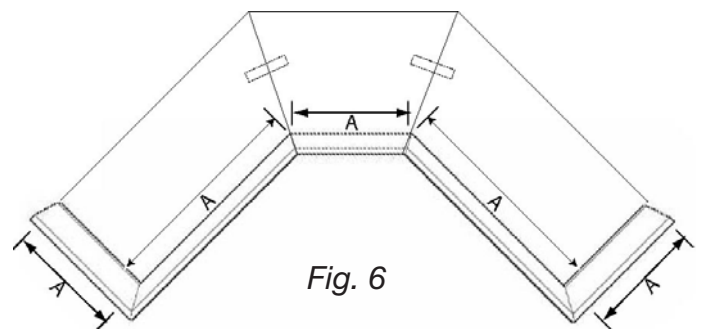
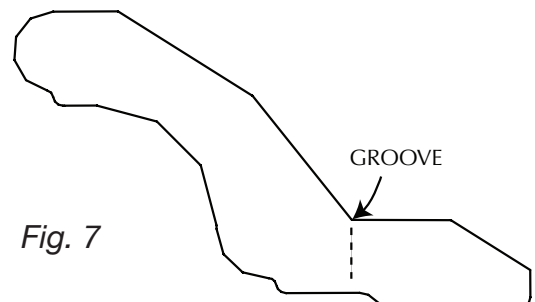

Fig. 6
Fig. 7
1. Measure the top shelf carefully, from point to point (Fig. 6) along the edge where you will install the molding (distances "A" in Fig. 6).
2. Mark your first measurement, for example, begin left to right in installation of Fig. 6, using the shelf depth as your first cut to mark. From the 90° end cut of the panel, mark the distance 14" in the groove on the back of the molding (Fig. 7). (The groove is aligned directly over the front edge of the top shelf.)